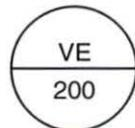

Figure 46. Instrument Tag
3. Determine the measured variable indicated in the instrument tag in figure 46.